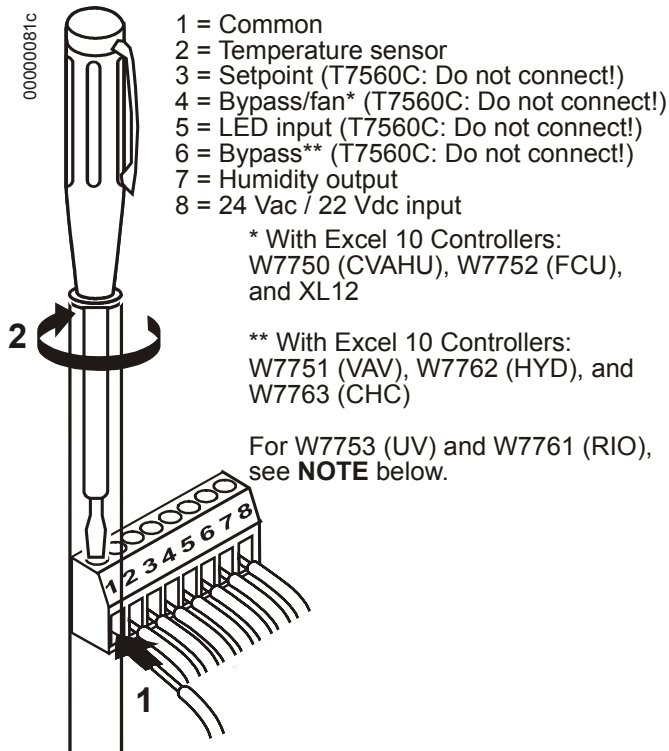

Fig. 4. Wiring of DWM
*Deviation from this rule can result in improper electrical contact. See Fig. 4.*
3. Verify DWM is wired according to Fig. 4.